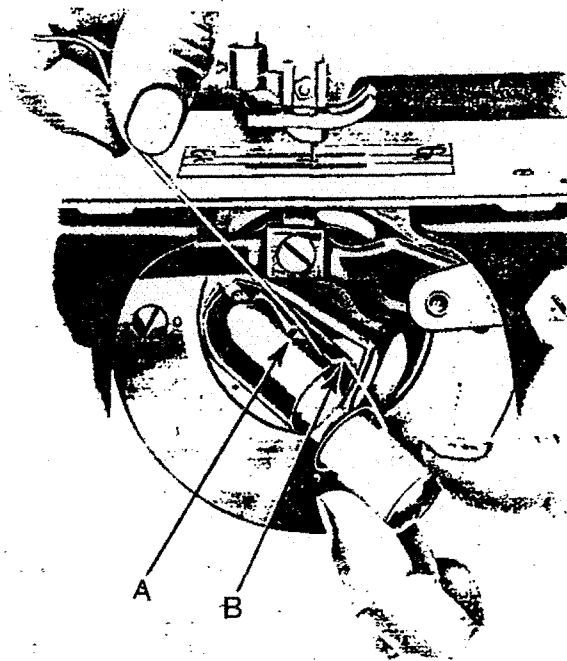
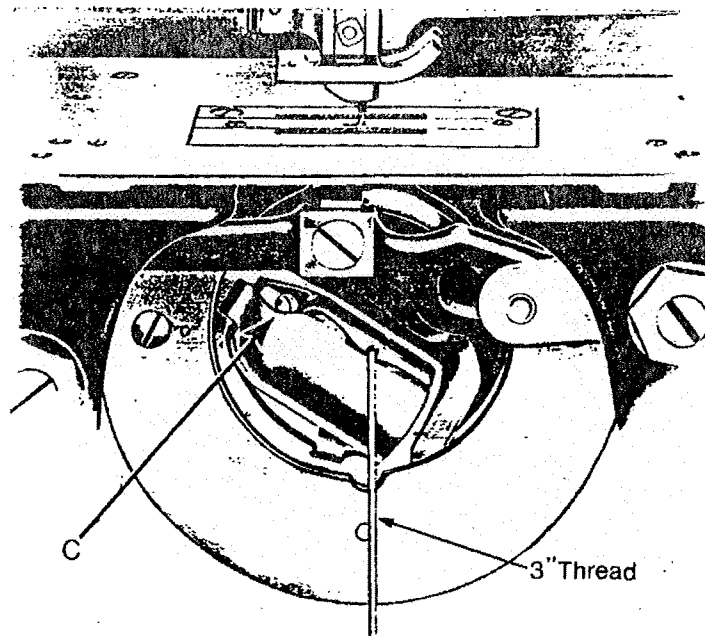

Fig. 4 Bobbin Replacement and Threading the Shuttle
Fig. 5 Bobbin replaced and Shuttle threaded
Hold the bobbin between the thumb and index finger of the left hand, at the same time the thread is drawing off from the underside toward the right as shown in Fig. 4. Place the bobbin in the cylinder as far as it will go, draw the thread in the slot B, Fig. 4 in the cylinder and under the tension spring, then into the delivery eye A, Fig. 4, then push the cylinder back until it is locked by the spring latch, and allow about 3 inches of thread to hang free from the shuttle Fig. 5 so that it can be drawn up through the throat plate, as noted in Fig. 8.
B. The tension on the bobbin thread is regulated by the screw C Fig. 5 which holds the tension spring to the cylinder. To increase the tension, turn the screw to the right. To decrease the tension, turn the screw to the left.